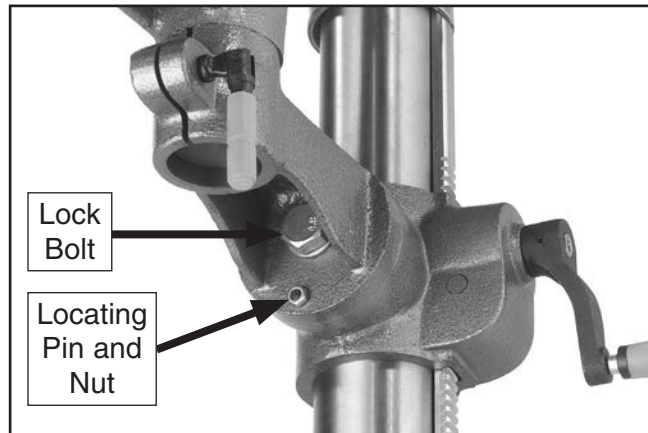

Figure 29. Table tilt locating pin and nut and lock bolt for angle adjustment (G7946).
1. **(G7946 Only):** Turn the locating pin nut (see **Figure 29**) in a clockwise direction. This will draw the locating pin out of the casting. Once loose, pull out the pin and nut, and set them in a safe place until needed.